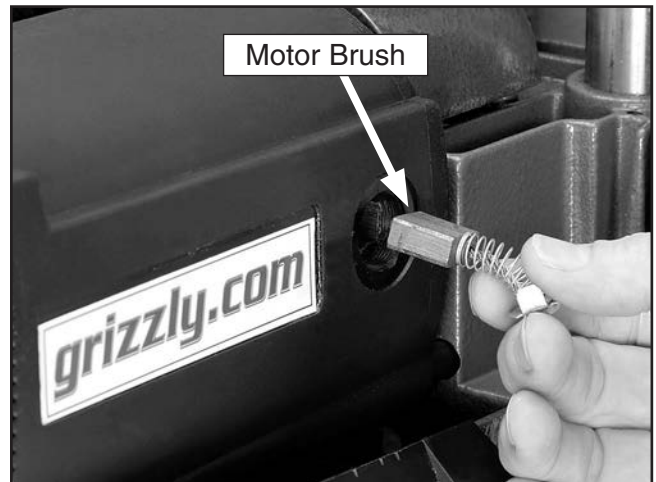

Figure 28. Motor brush replacement.
- Remove the brushes from the motor, as shown in **Figure 28**.